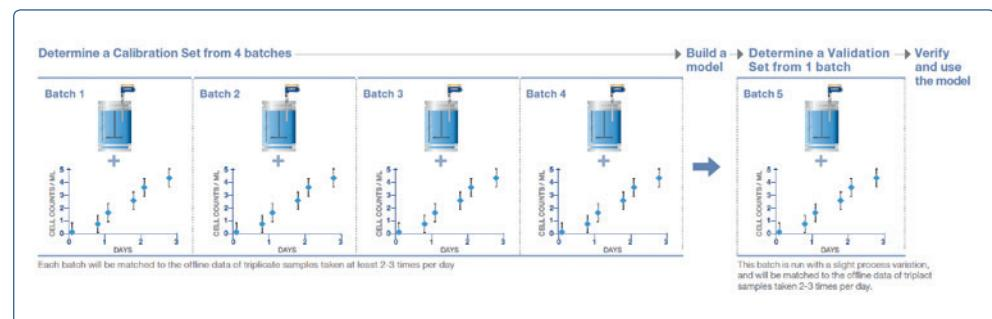

Figure 44: Experimental setup to collect data for Correlation
- 1) Plot the online and offline cell density measurements against time for comparison (figure 44).